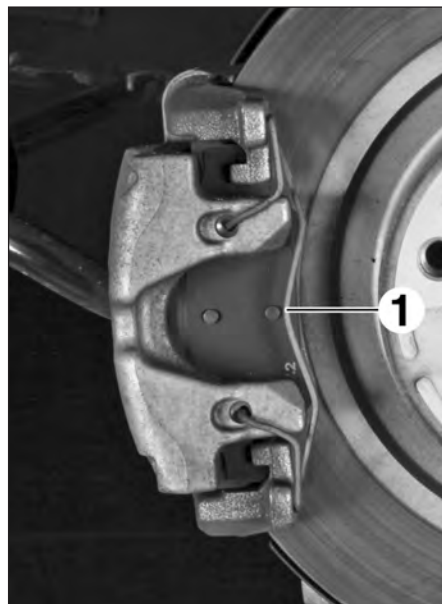

FIG.11
- Déposer le ressort (1) (Fig.11).